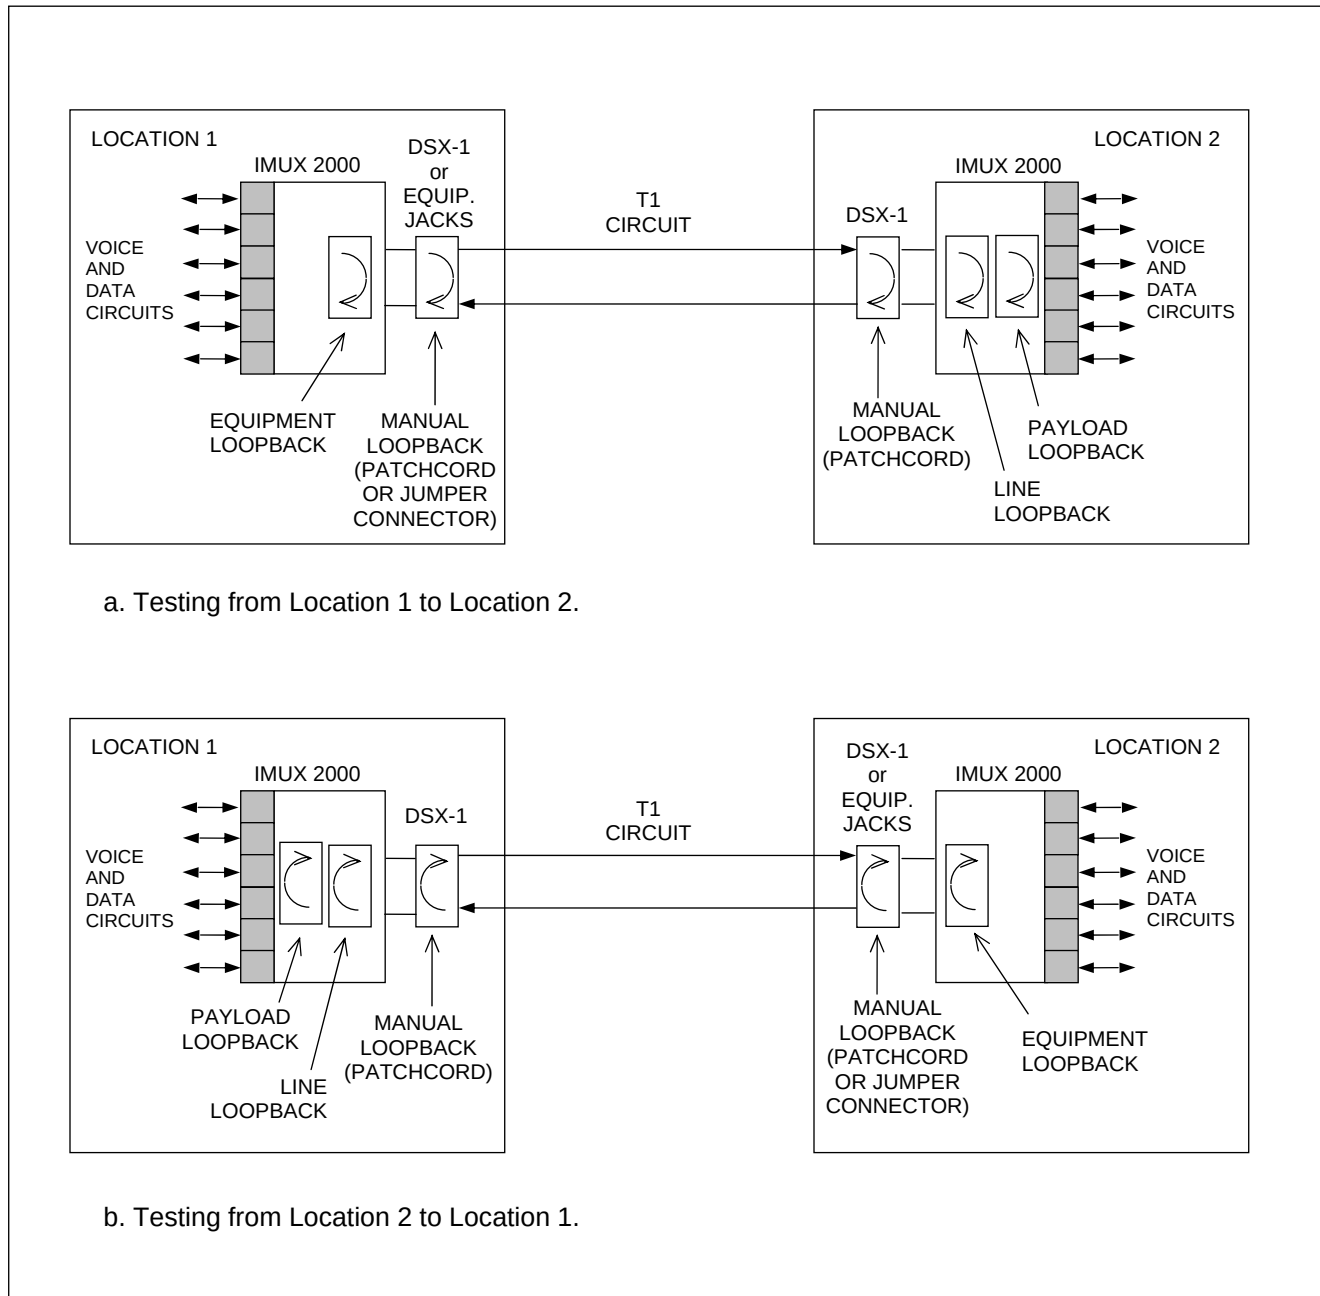

Figure 10-2. Using IMUX 2000 T1 loopbacks
The following example shows how to use the loopbacks built into IMUX 2000 multiplexers to isolate a failure on a point-to-point T1 system (Figure 10-2).
5. You can also perform these tests in the opposite direction, from Location 2 towards Location 1, as shown in Figure 10-2.